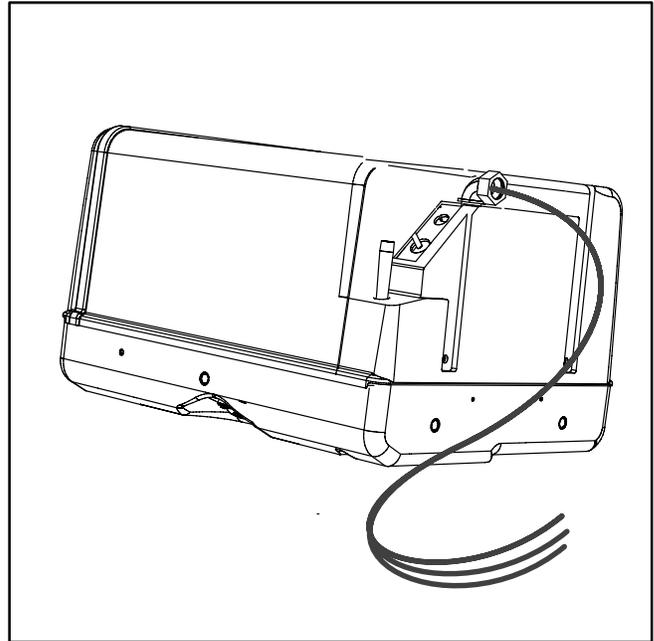
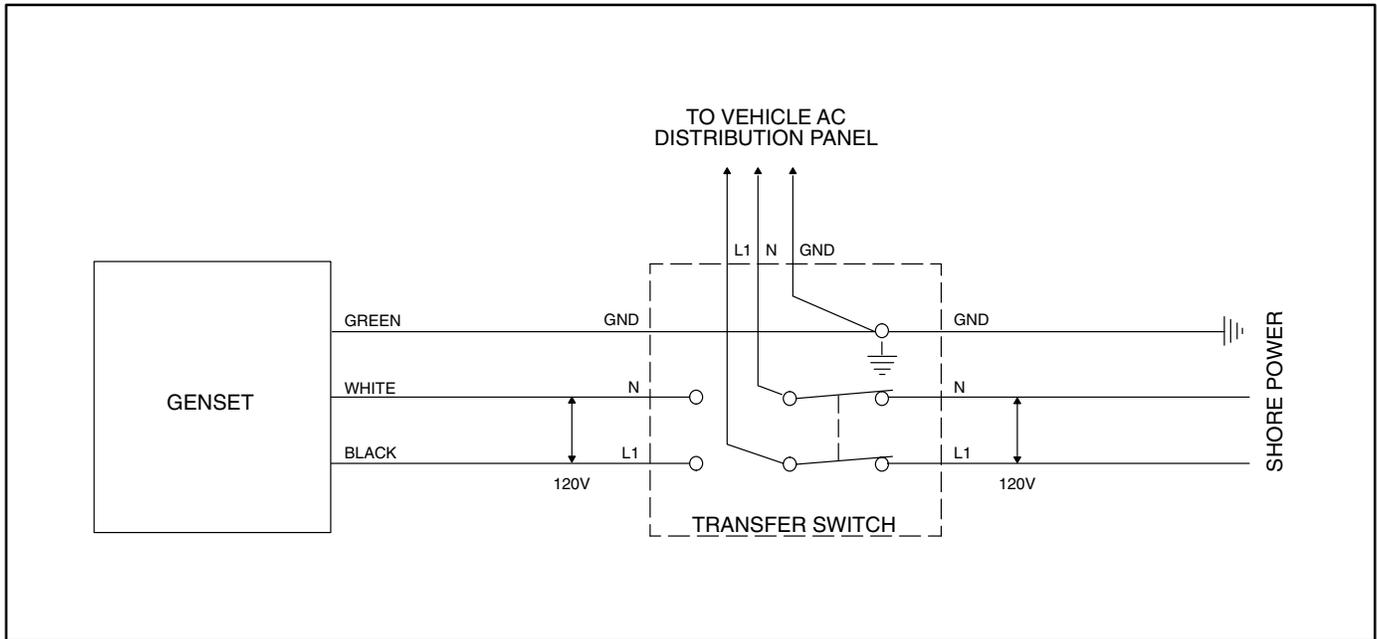
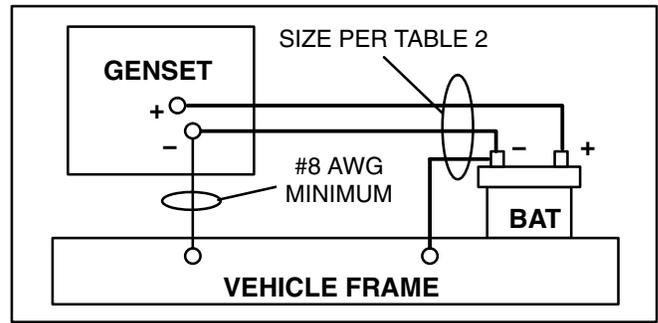
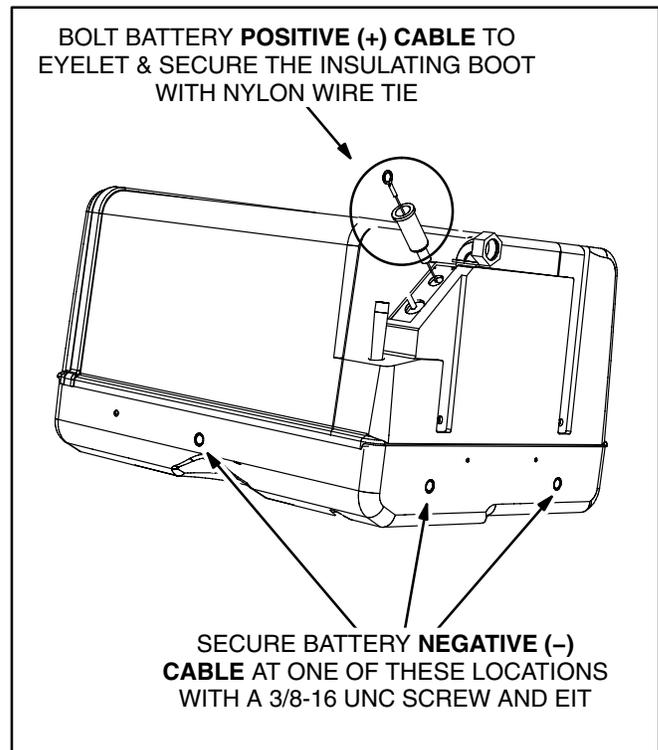

FIGURE 10. AC OUTPUT LEADS
FIGURE 11. TYPICAL CONNECTIONS WITH TRANSFER SWITCH AND UTILITY
FIGURE 17. FULL-LENGTH CABLE FROM BATTERY NEGATIVE (-) TERMINAL
FIGURE 19. BATTERY CABLE CONNECTIONS
The genset is equipped with 50 inch (1270 mm) long AC power output leads that exit through a 1/2 inch flexible steel conduit fitting (Figure 10). See Figure 11 for typical connections and Page A-5 or A-6 for internal genset wiring.
6. Bond the genset and all connected AC and DC equipment and controls to a common grounding point in accordance with applicable codes. (See Figure 11, Page 11 for AC grounding and Figure 19, Page 15 for DC grounding.)
When the vehicle has provision for connecting shore power it must have an approved device to keep the genset and utility from being interconnected. See Figure 11 for typical connections.
current without causing excessive voltage drop. It is highly recommended that a full-length cable be used to connect the genset to the negative (-) battery terminal (Figure 17). Note also that codes may require a bonding conductor between the genset and vehicle frame and between the battery and vehicle frame.
Positive (+) Cable: Bolt the positive (+) battery cable to the eyelet connector on the genset with a 3/8 inch bolt and nut (Figure 19). Slide the rubber insulating boot over the bolted connection and secure it with a nylon wire tie.
Negative (-) Cable: Secure the negative (-) battery cable with a 3/8-16 UNC screw and external/internal toothed washer (EIT) at one of the locations shown in Figure 19. The EIT washer must be between the cable lug and the base pan. If a frame grounding strap is necessary (Figure 17), bolt it with the same bolt as the battery cable.